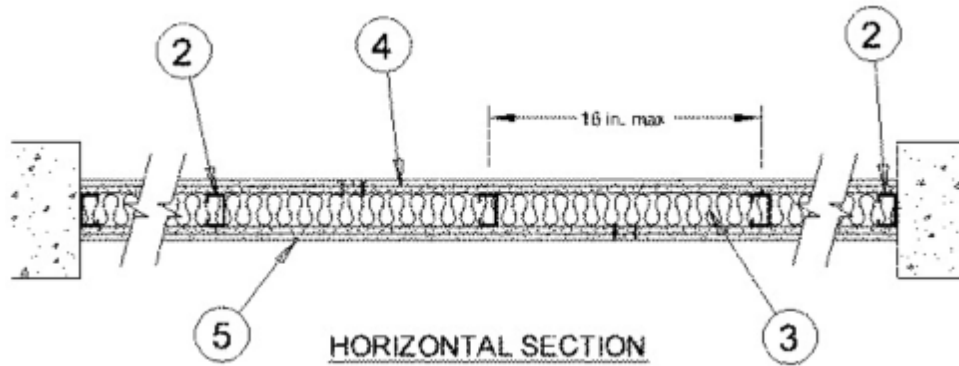

FIGURE 1—Nonbearing Wall Rating—1 HR.
4.2.1 Fire-resistance Wall Rating: The fire-resistance-rated assembly shown in Figure 1 is based on a UL design. Homasote 440 SoundBarrier[®] may be used in fire-resistance-rated wall assembly when constructed as indicated in the design. When using this assembly, all details must be in accordance with the specifications contained in the UL *BXUV GuideInfo*.